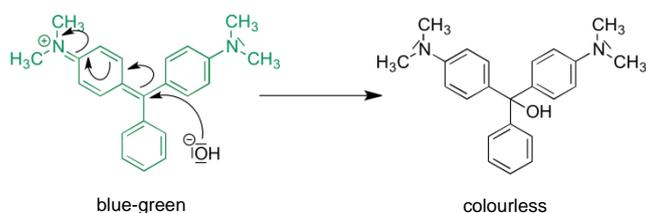

Fig. 2: Reaction of malachite green with hydroxide ions.
The discolouration of malachite green (MG) by hydroxide ions, according to the reaction equation (see Fig. 2), is a second-order reaction. Malachite green is a triphenylmethane dye. It consists of a planar ring system which is responsible for the colour. Hydroxide ions attack the central C atom and destroy the colour. Here we are dealing with a bimolecular reaction in which a hydroxide molecule and a malachite green molecule meet.